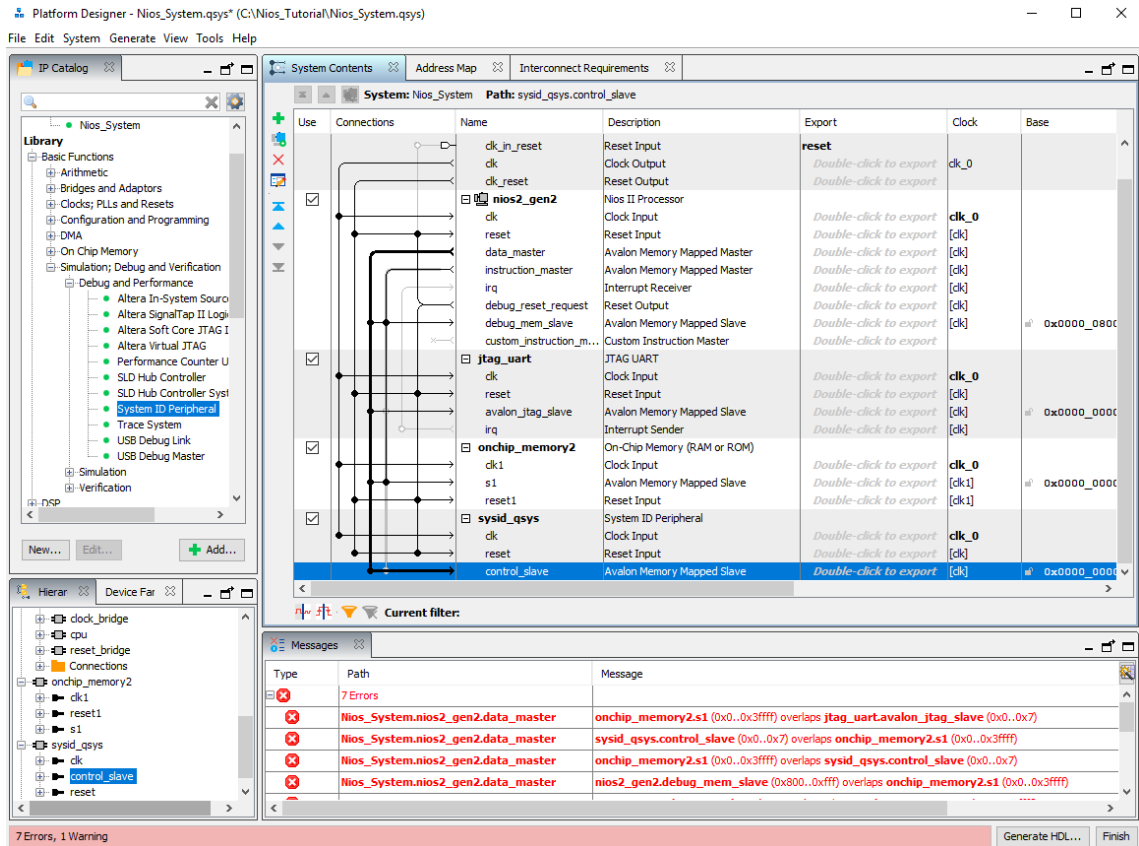

Figure 1-21 Connecting System ID connections
14.) Connect the clk, reset, and data master dots as shown in figure 1-21.